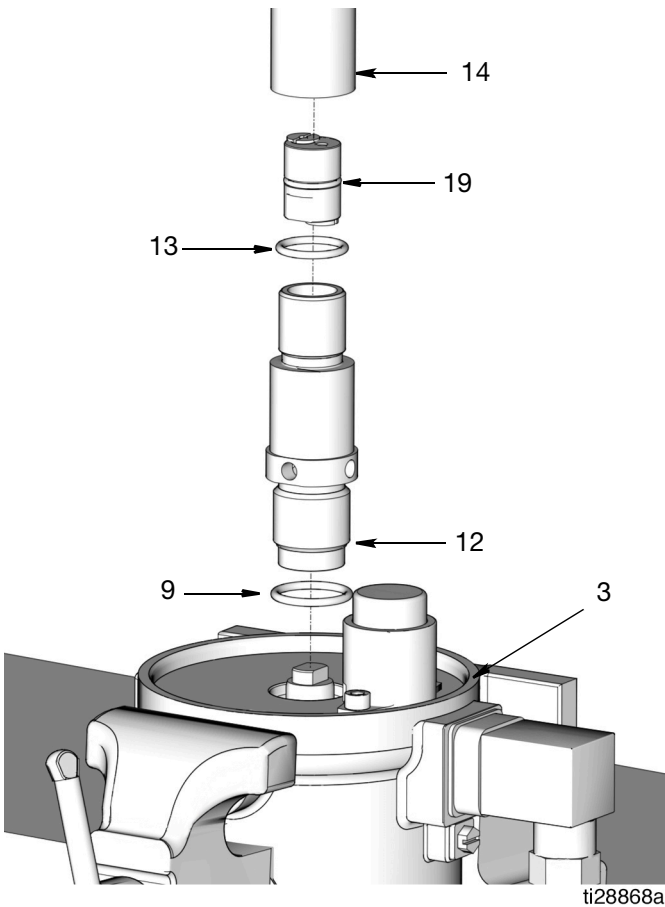

FIG. 38
16. Apply a thin layer of grease to the outlet tube o-ring (13) and the pump cylinder o-ring (9) and install the o-rings on the outlet tube (14) and the pump cylinder (12) (FIG. 38).